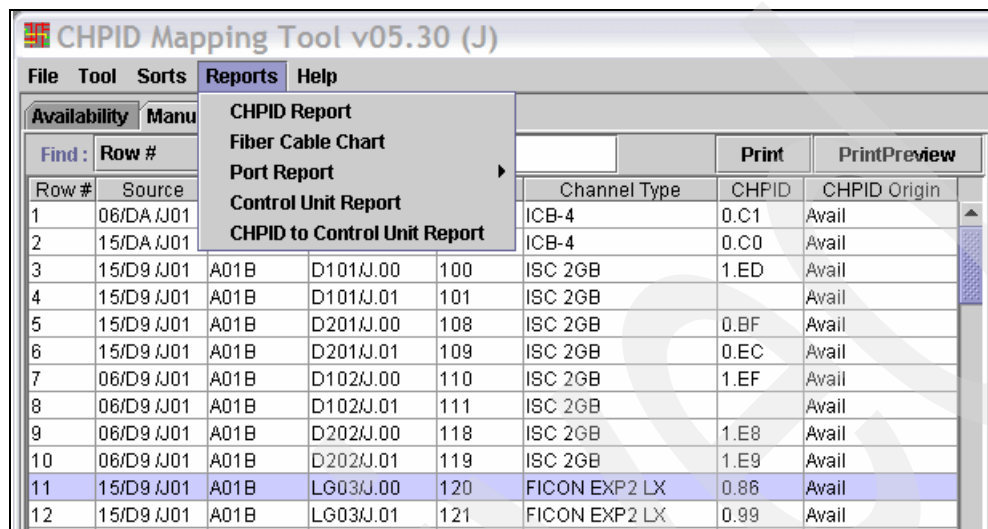

Figure 4-64 CMT - select CHPID Report
1. Click **Reports** → **CHPID Report** (Figure 4-64).